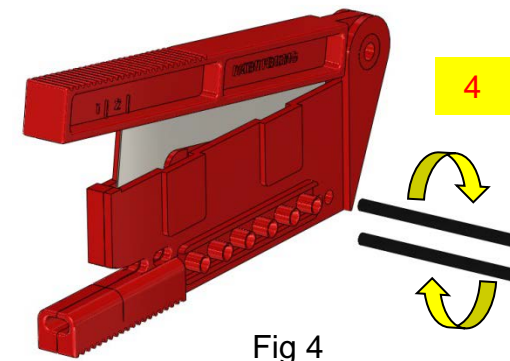

Fig 4
4. To strip the fiber, insert the fiber into the tool and close the tool. Keep the tool closed then rotate at least 1 1/2 turns (Figure 4) Then pull outward to remove the jacket. (Figure 5)